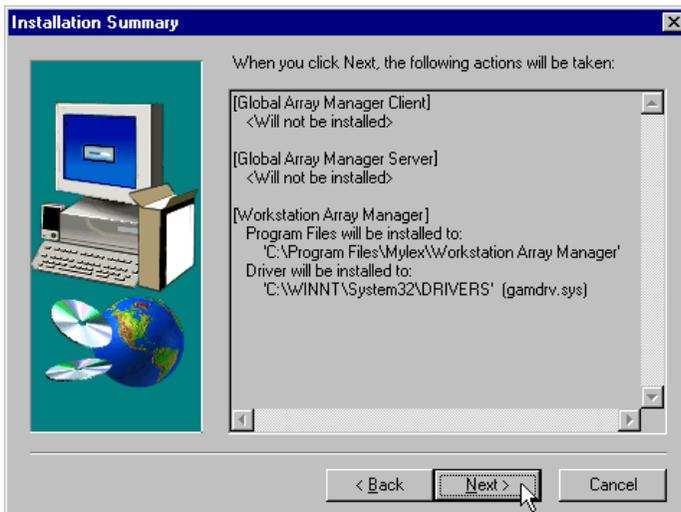

Figure 2-15. Installation Summary
2. The Installation Summary screen (Figure 2-15) summarizes the components and subcomponents you've selected for installation. Click Next to continue or Back to change selected components.